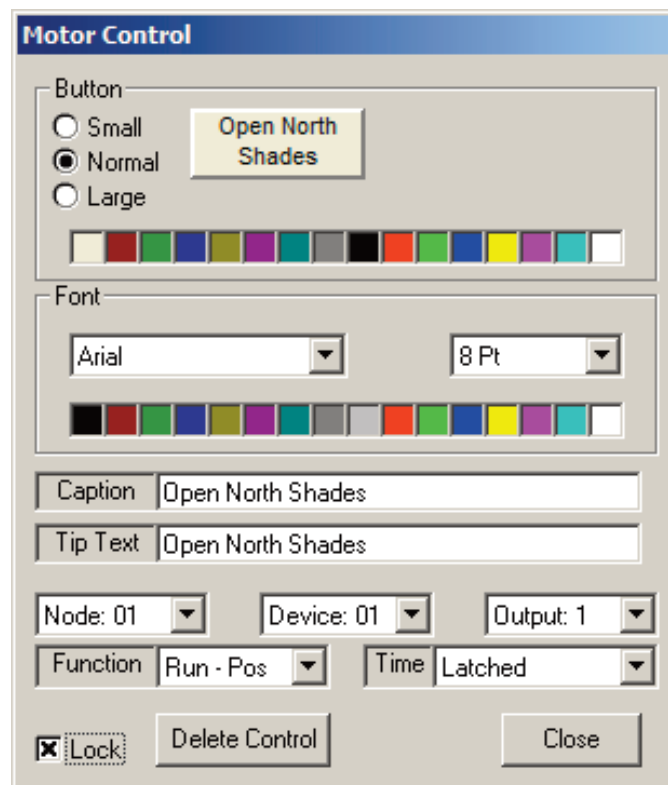

Figure 2.15 Defining a Motor Control
3. Right click on the new Insite Motor Control button to begin defining its appearance and control as shown in figure 2.15.